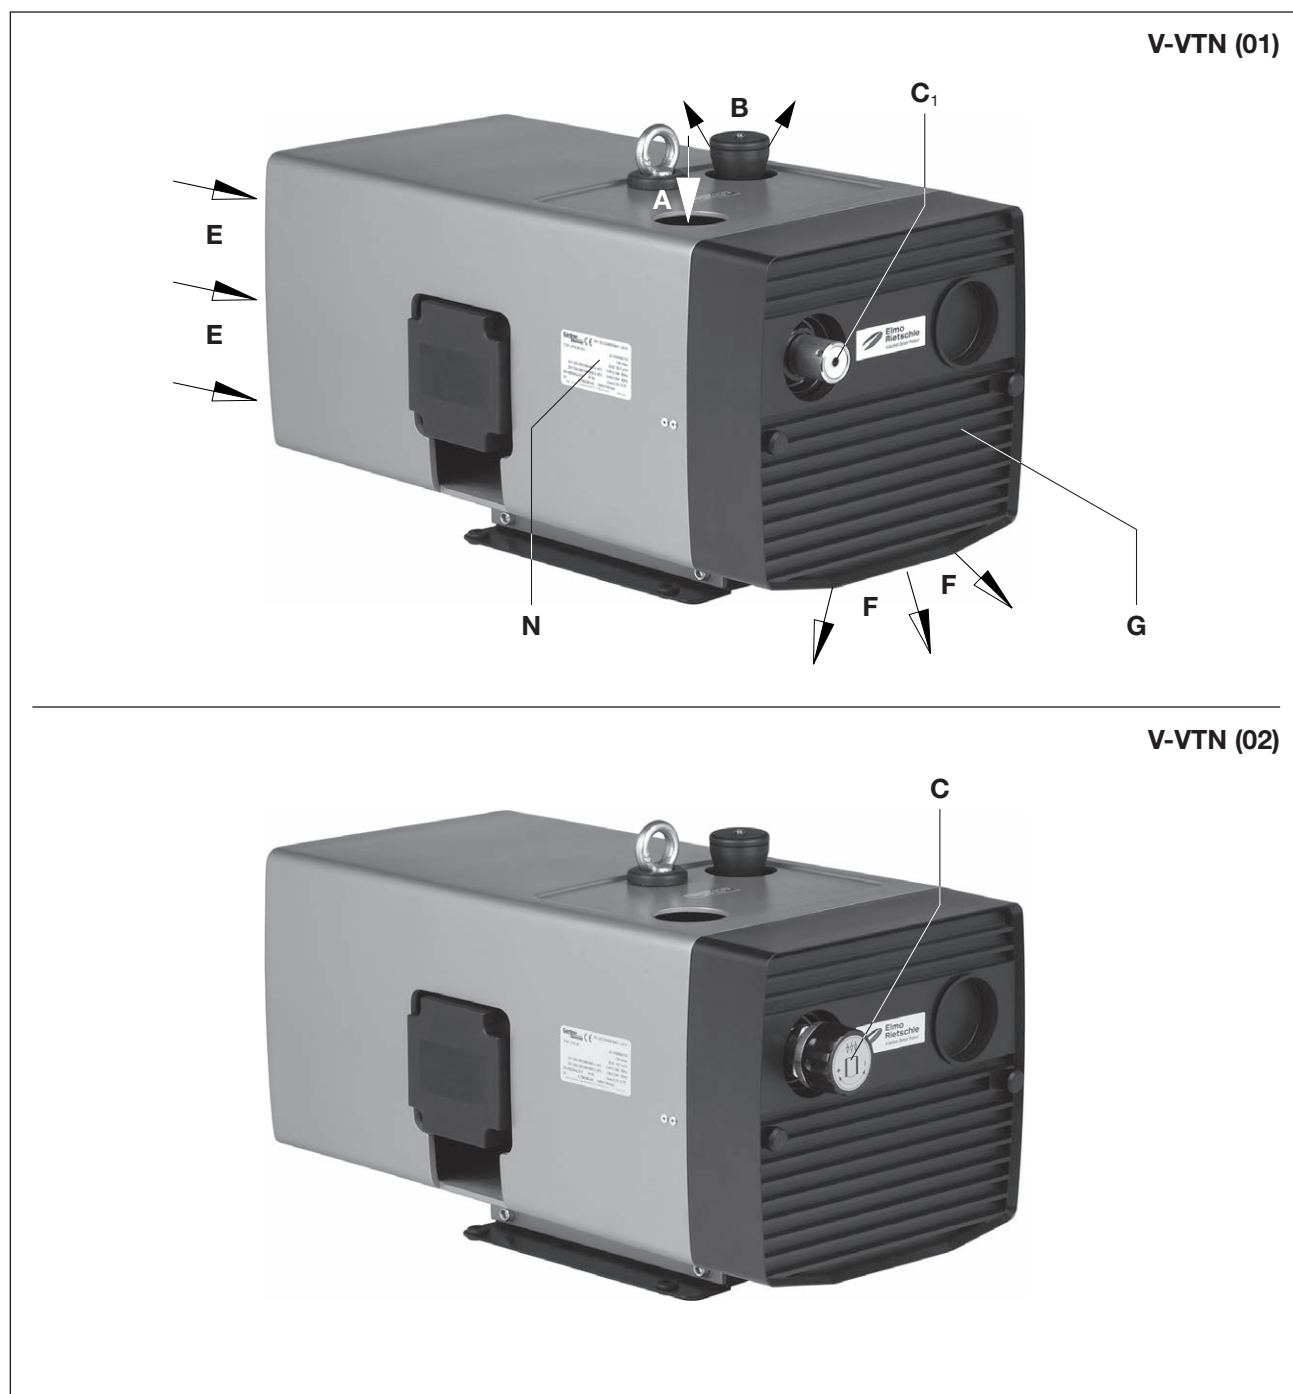
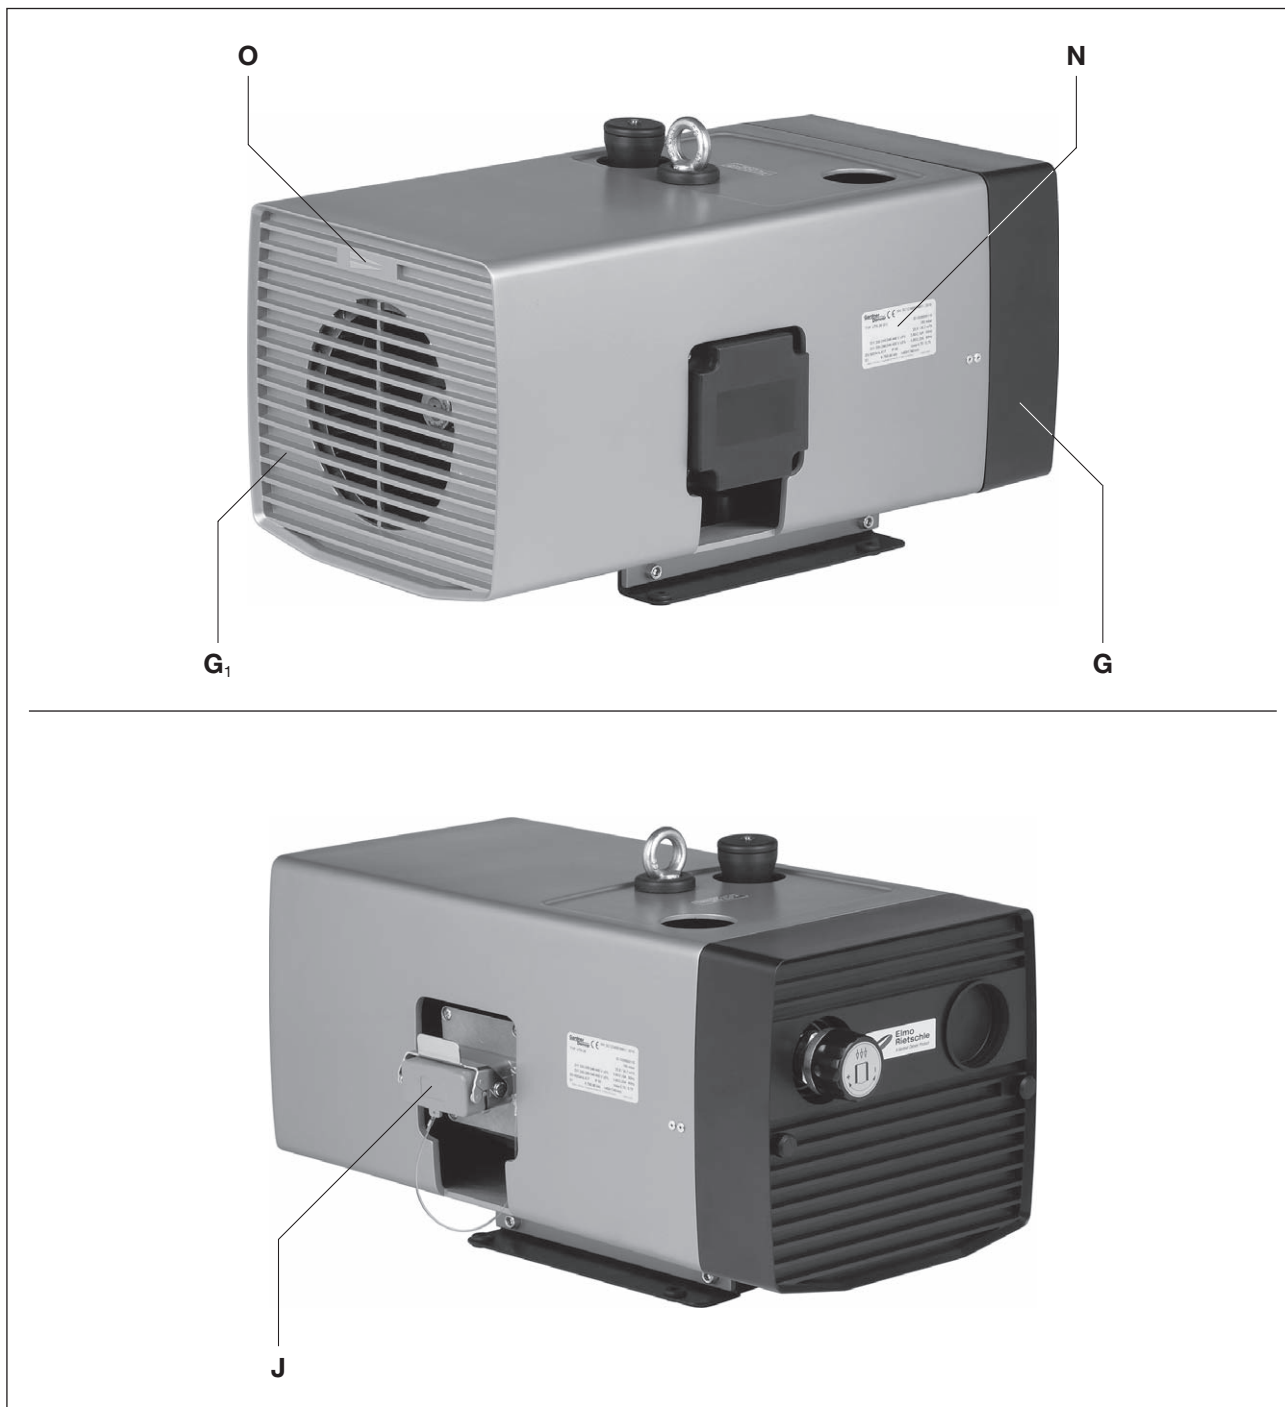

Fig. 2 Vacuum pump V-VTN (01) / V-VTN (02)
Fig. 3 Vacuum pump V-VTN
The V-VTN (02) has a vacuum regulating valve fitted as standard (Fig. 2/C) that enables the vacuum to be set to the required values which have an upper limit.
To remove the outlet grid (Fig. 3/G) and the inlet grating (Fig. 3/G₁) at least 30 cm of space must be available for maintenance work. You must also ensure that the cooling air inlets (Fig. 2/E) must be at least 10 cm away from the nearest wall (outgoing cooling air must not be sucked in again).
- a) Vacuum connection at (Fig. 2/A).
The vacuum can be set by turning the control knob (Fig. 2/C) as shown on the symbol fitted to the button.
- a) The electrical motor data can be found on the data plate (Fig. 2/N) or the motor data plate. The motors comply with DIN EN 60034 and are in protection class IP 55 and insulation class F. The appropriate connection diagram is located in the motor's terminal box (not for the plug connection version). The motor data must be compared with the data of the existing mains network (current type, voltage, network frequency, permitted current value).
- b) Connect the motor via the plug connection (Fig. 3/J) or a motor protection switch (for safety reasons a motor protection switch is required and cable fitting must be provided to provide strain relief for the connection cable). We recommend using motor protection switches with delayed switch off, depending on possible excess current. Temporary excess current may occur when the machine is started cold.
- ▷ The drive shaft direction of rotation is shown by the rotation direction arrow (Fig. 3/O).